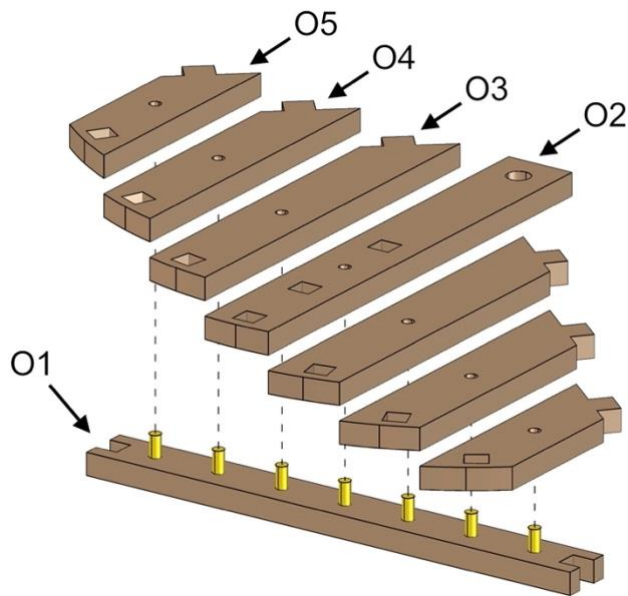

Fig. 73
- Align parts exactly as shown in Fig. 73.